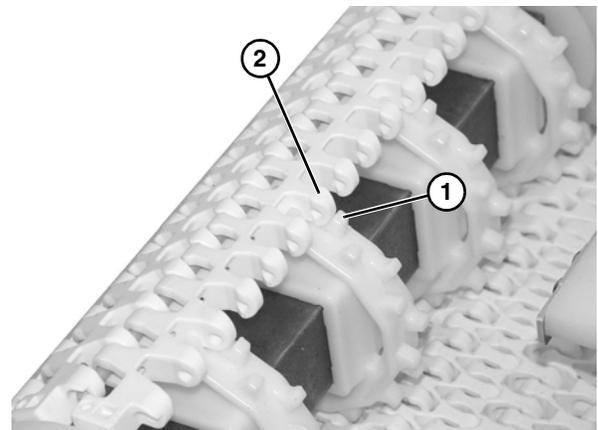

Figure 9
4. Wrap the belt around the drive end of the conveyor, making sure the sprocket teeth have engaged the belt, with concave teeth (Figure 9, item 1) mating with rounded section (Figure 9, item 2) of belt.